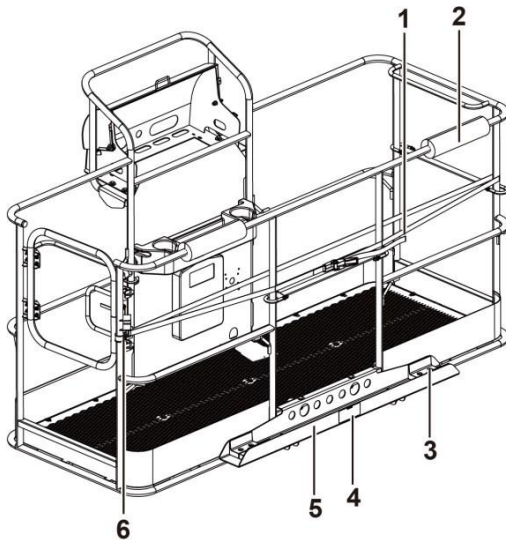

Figure 9-1
of the platform, as shown in Figure 9-1.
- 7) Install the rubber pad into the groove of the panel bracket and secure it with fasteners, as shown in Figure 9-1.
- 8) Install the sponge sheath onto the top bar of the platform, as shown in Figure 9-1.
- 9) Attach the strap and pipe clamp to the vertical beam of the platform. Attach the strap to the pipe clamp, and tighten it with fasteners until the pipe clamp is fixed but is still able to slide freely on the vertical beam, as shown in Figure 9-1.